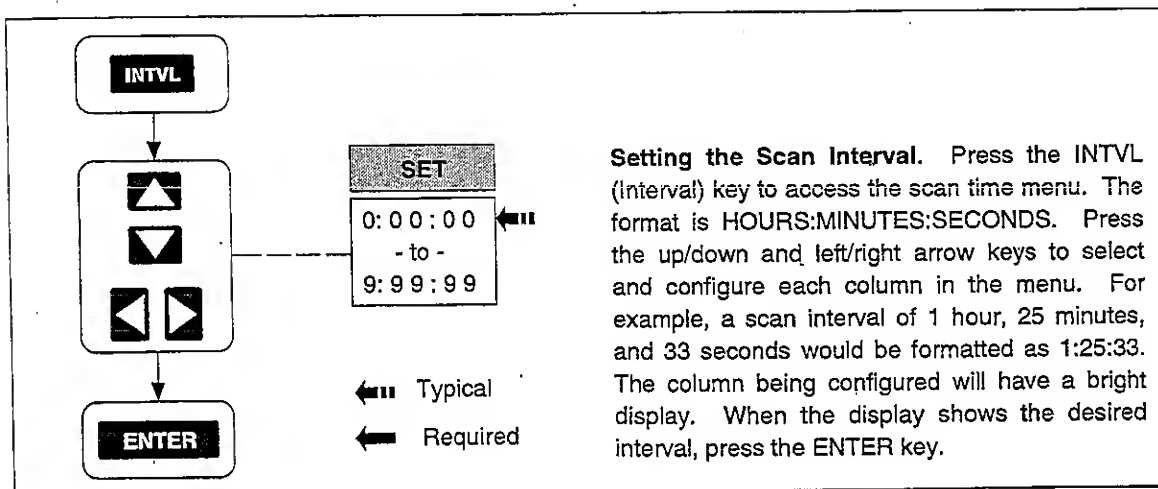
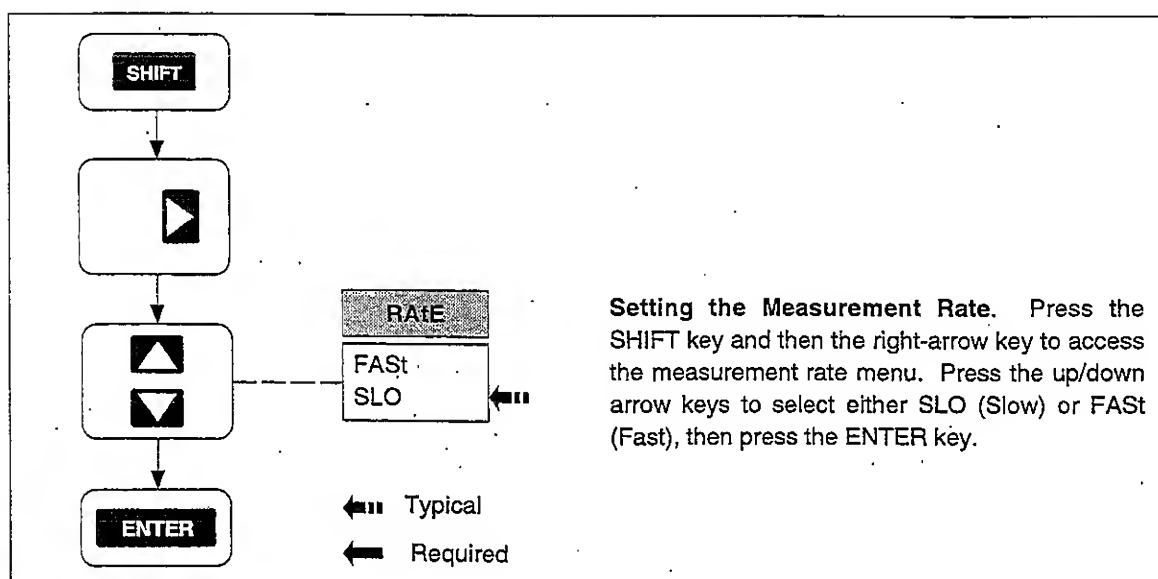

Figure 2-11. Setting the Scan Interval
Figure 2-12. Setting the Measurement Rate
- Setting the Scan Interval [Default - 0:00:00 (Continuous)] (Figure 2-11)
- Setting the Measurement Rate [Default - Slow] (Figure 2-12)
Perform the procedure in Figure 2-11 to set the time between starts of measurement scans. In preparation, the instrument must be in the inactive mode (not scanning or monitoring). To exit at any time (changes not saved), press the CANCL key. The scanning interval format is HOURS:MINUTES:SECONDS. The minimum is 0:00:00 (continuous scanning [default]); the maximum is 9:99:99 (9 hours, 99 minutes, 99 seconds). The scan interval is divided into two portions: the measurement interval when measurements are actually taken, and the time-out interval that completes the overall scan duration. For example, if 10 channels can be measured in 8 seconds, and the scanning interval is set for 30 seconds, the first 8 seconds are used for measurement, while the remaining 22 seconds are used to time out. If the scanning interval is set to less than the measurement rate, the effect is continuous scanning. For example, if 10 channels can be measured in 8 seconds and the scanning interval is set for 5 seconds, scanning is continuous. To speed up the measurement rate, refer to Figure 2-12.
Perform the procedure in Figure 2-12 to set a fast or slow [default] measurement rate. The measurement rate affects the time required to scan the configured channels. However, the fast mode sacrifices one digit of measurement resolution. For example, a temperature reading of 72.4 °F in the slow mode would become 72 °F in the fast mode, or 27.858V dc in the slow mode would become 27.86 V dc in the fast mode. The fast mode is normally used to capture rapidly changing measurements or to speed up the measurement portion of the scan interval.